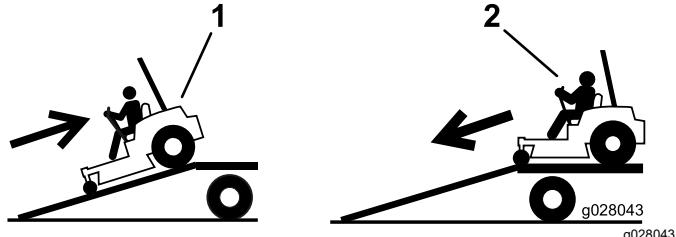

Figure 32
4. Back the machine up the ramp (Figure 32).